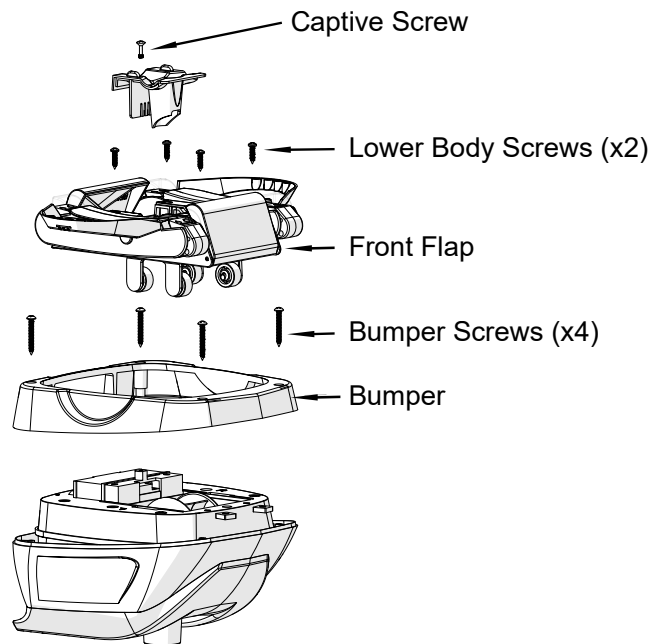

Fig. 21
2. Locate and loosen the captive screw behind the throat in the center of the bottom (Figs. 21).
4. Remove lower body screws (see Fig. 21).
5. Lift the lower body assembly off the Aqua Rover automatic pool cleaner (see Fig. 21).
6. Remove four bumper screws (see Fig. 21).